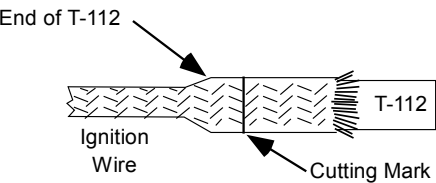

Figure 3.3.2D
- 3. Insert T-112 tool between wire shielding and silicone insulation. T-112 should be inserted past cutting mark (See Figure 3.3.2D).